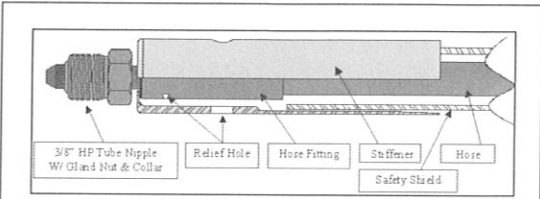

Figure 1 - Basic design of a 40,000 and 55,000 psi hose assembly with safety (burst) shield and stiffener. (Also, pictured on the cover.)
In figure 1, a typical UHP hose is shown with a 3/8" high-pressure (HP) tube nipple fitting. The important features illustrated are the stiffener, the safety or abrasion shield and the relief sight holes in the fitting, swivel nut and stiffener. The safety shield